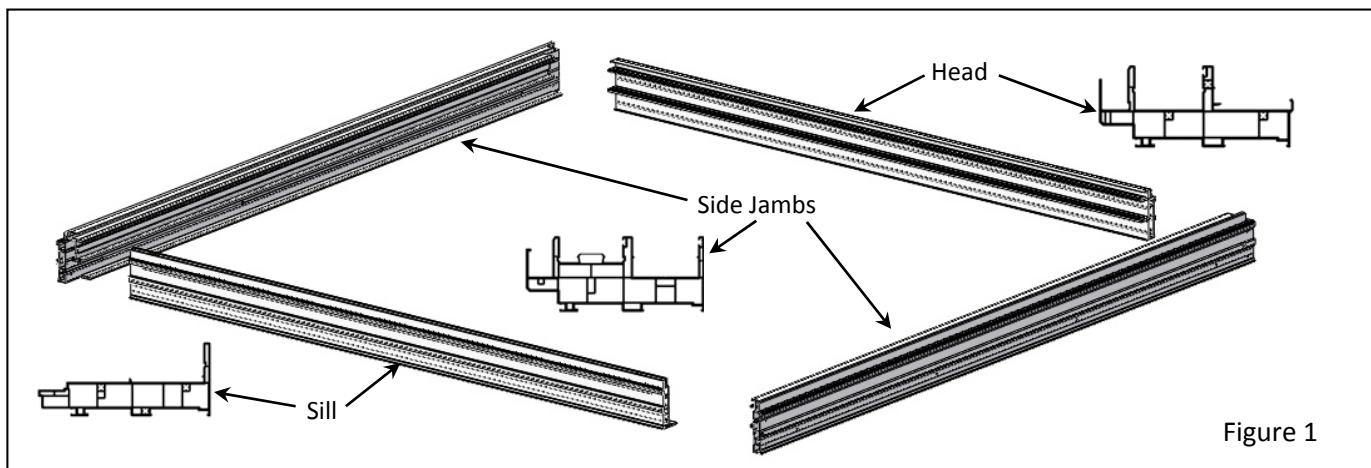

Figure 1
- 2) Remove all the parts and pieces from the vinyl head, sill, and side jambs. Lay the frame pieces out with the exterior side up, arranged in the order they will be assembled (Fig. 1).